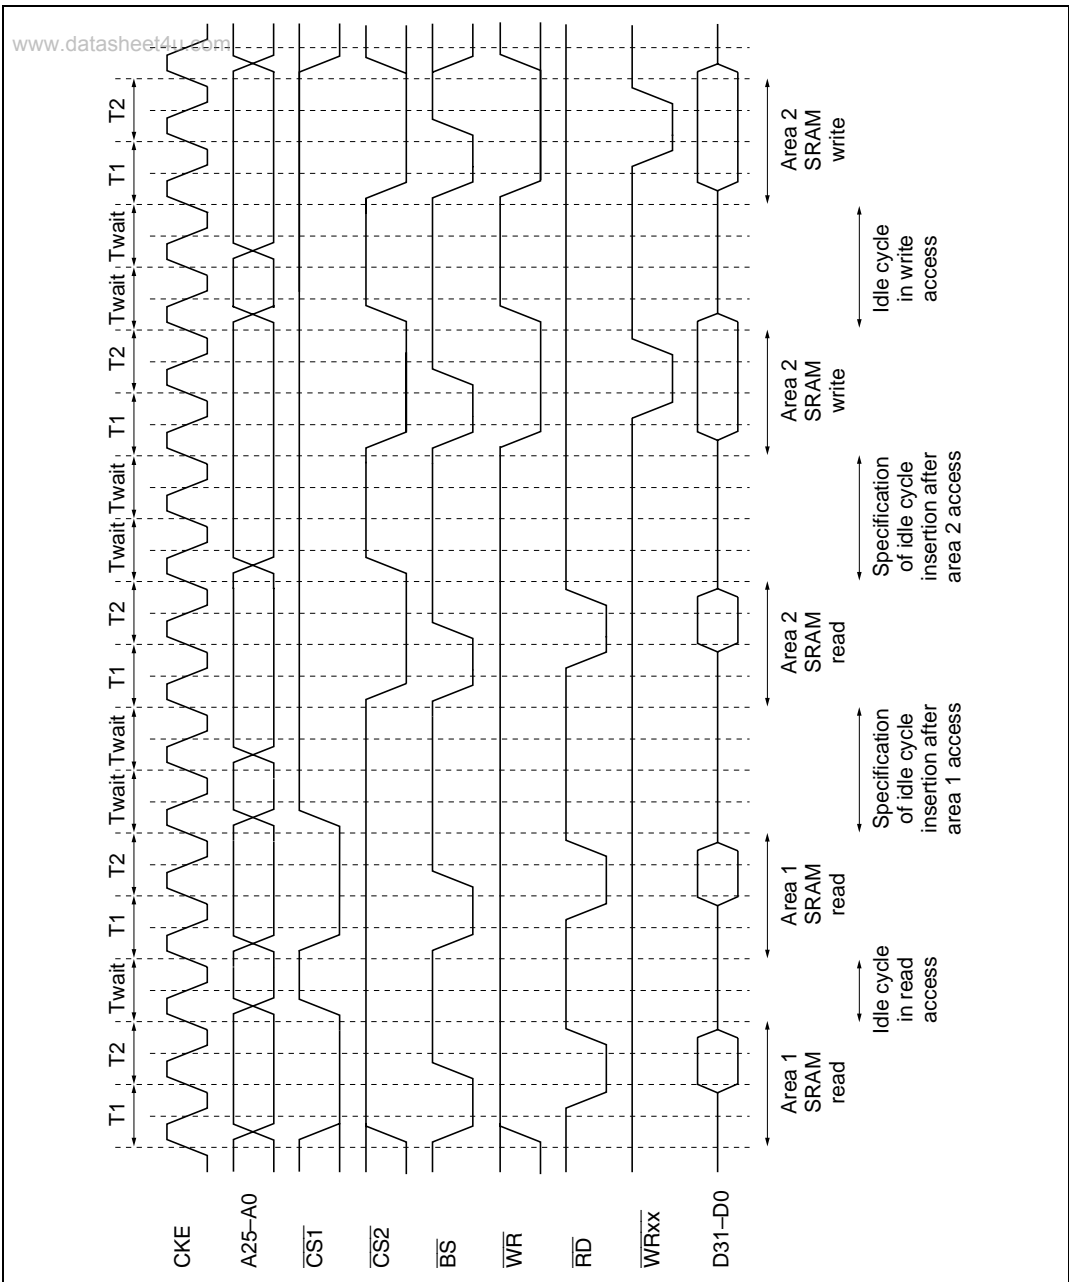

Figure 8.35 Example of Timing of Waits between Access Cycles (No Wait)
There are two cases in which wait cycles are inserted: (1) when an access is immediately followed by an access to a different area, and (2) when a read cycle access is immediately followed by a write access from the SH7065. When the SH7065 performs consecutive write cycles, the data transfer direction is fixed (from the SH7065 to other memory) and there is no problem. With read access to the same area, also, in principle data is assumed to be output from the same data buffer, and the set wait cycle insertion is not performed. Figure 8.35 shows the timing of waits between access cycles.